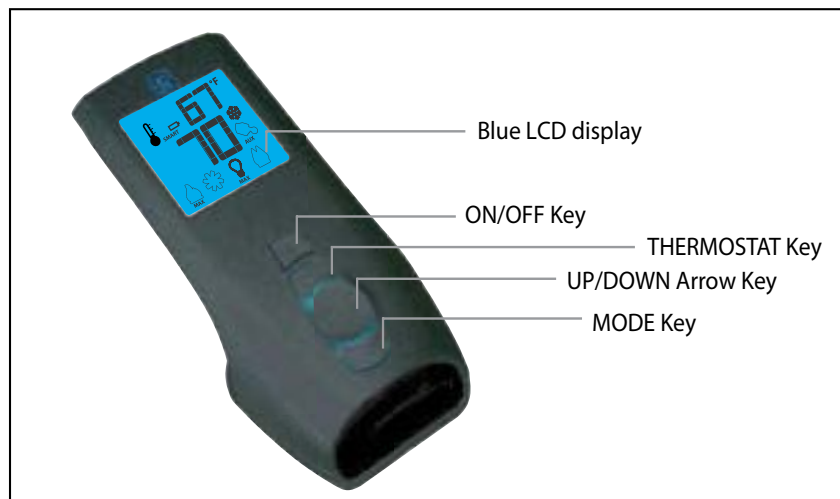
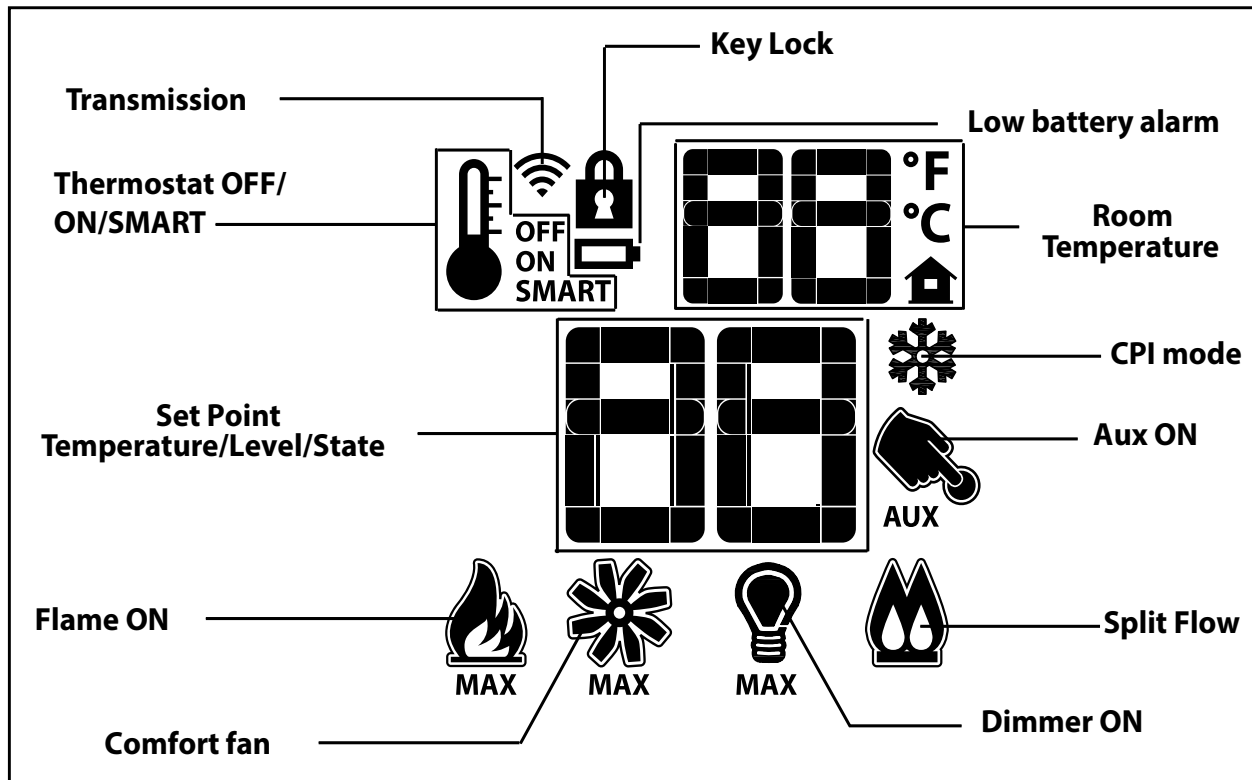
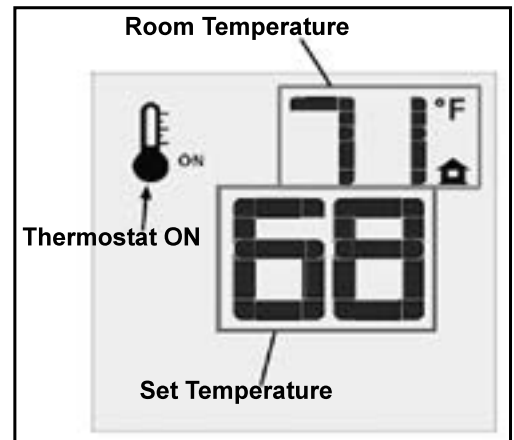
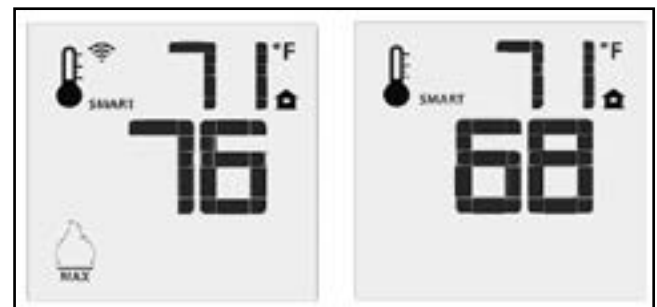

Figure 4: Proflame 2 Transmitter.
Figure 5: Proflame 2 Transmitter LCD Screen.
Figure 9: Remote Control Displays Set Temperature.
Figure 10: Remote Control's Smart Flame Function.
The Proflame 2 Transmitter is a black remote control with a blue backlit lcd display. It uses a streamline design with a simple button layout and informative lcd readout (Figure 5). The Transmitter is powered by three (3) AAA type batteries. A Mode Key is provided to Index between the features and a Thermostat Key is used to turn on/off or index through Thermostat functions (Figure 4 & Figure 5)
Press the ON/OFF Key on the Transmitter. The Transmitter LCD display will only show the room temperature and Icon (see Figure 9). A single "beep" from the IFC confirms reception of the command and both the pilot light (if the unit is not set to continuous pilot) and main burner will turn off.
The Remote Control can operate as a room thermostat. The thermostat can be set to a desired temperature to control the comfort level in a room. To activate this function, press the Thermostat Key (see Figure 4). The LCD display on the Transmitter will change to show that the room thermostat is "ON" and the set temperature is now displayed (see Figure 9). To adjust the set temperature, press the Up or Down Arrow Keys until the desired set temperature is displayed on the LCD screen of the Transmitter.
The Smart Thermostat function adjusts the flame height in accordance to the difference between the set point temperature and the actual room temperatures. As the room temperature gets closer to the set point the Smart Function will modulate the flame down. To activate this function, press the Thermostat Key (Figure 4) until the word "SMART" appears to the right of the temperature bulb graphic (Figure 10). To adjust the set temperature, press the Up or Down Arrow Keys until the desired set temperature is displayed on the LCD screen of the Transmitter.